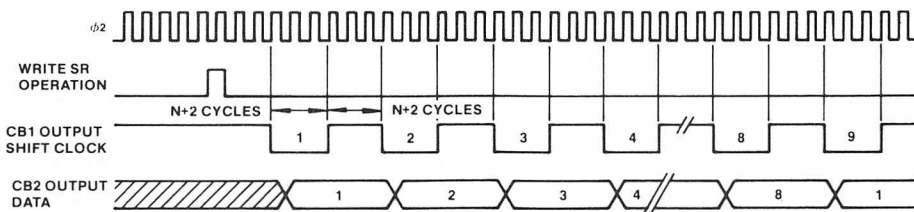

Figure 33. Shift Out—Free Running T2 Rate
Shift Out—Free Running at T2 Rate (100)—This mode is similar to mode 101 in which the shifting rate is determined by T2. However, in mode 100 the Shift Register Counter does not stop the shifting operation. Since Shift Register bit 7 (SR7) is recirculated back into bit 0, the eight bits loaded into the Shift Register will be clocked onto the CB2 line repetitively. In this mode, the Shift Register Counter is disabled and IRQ is never set. Refer to Figure 33.